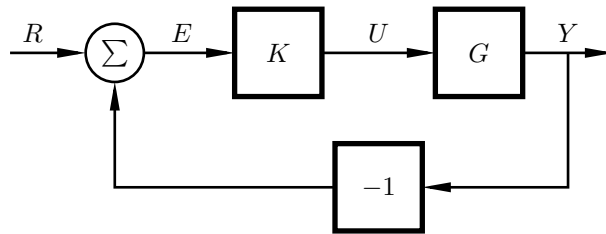

Figure 1: The closed loop system for problem 1.c.
- c. The system is controlled with a P-controller with gain  $K$ , see Figure 1. For what values of  $K$  is the closed loop system asymptotically stable? (answer for both positive and negative values of  $K$ ). (2 p)